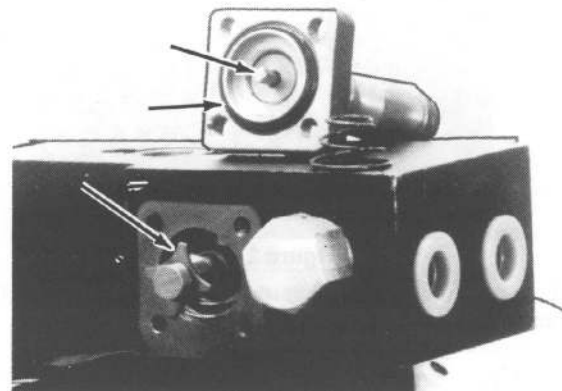

Figure 2-17
8. Remove two conical springs and two spacers (one set each side of valve stem) and the valve stem. See Figure 2-17.